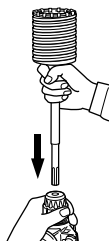

Fig. 27
- (2) Mount the core bit shank to the rotary hammer. (Fig. 27)